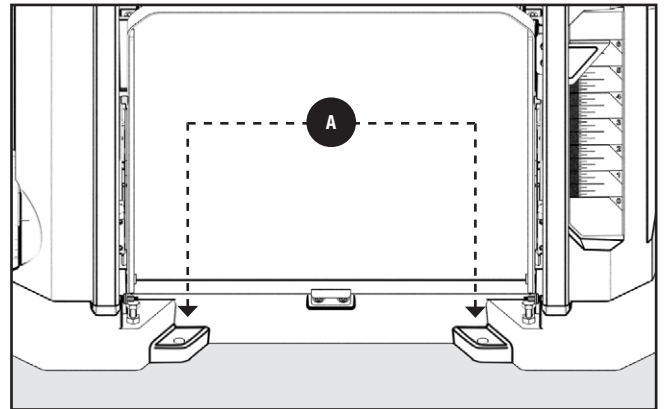

FIGURE 9
⚠ CAUTION Before operation, secure the planer to the supporting surface. Four holes (two of which are shown at **A** in Figure 9) are provided for this purpose.
1. Four attachment holes are provided for mounting the planer to a stand or work surface. These holes are located under the in-feed and out-feed tables as shown in Figure 9.